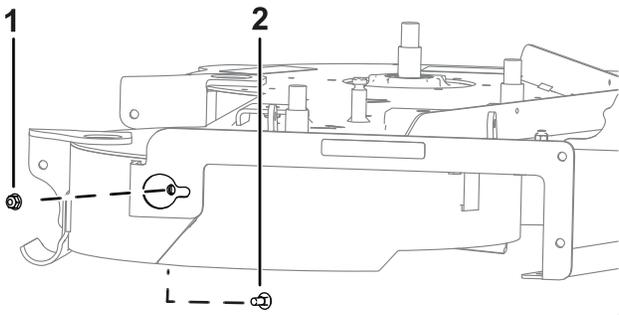

**Figure 5**
2. Install the right baffle using 1 carriage bolt (5/16 x 3/4 inch) and 3 nuts (5/16 inch) as shown in Figure 5. Tighten the fasteners by hand.